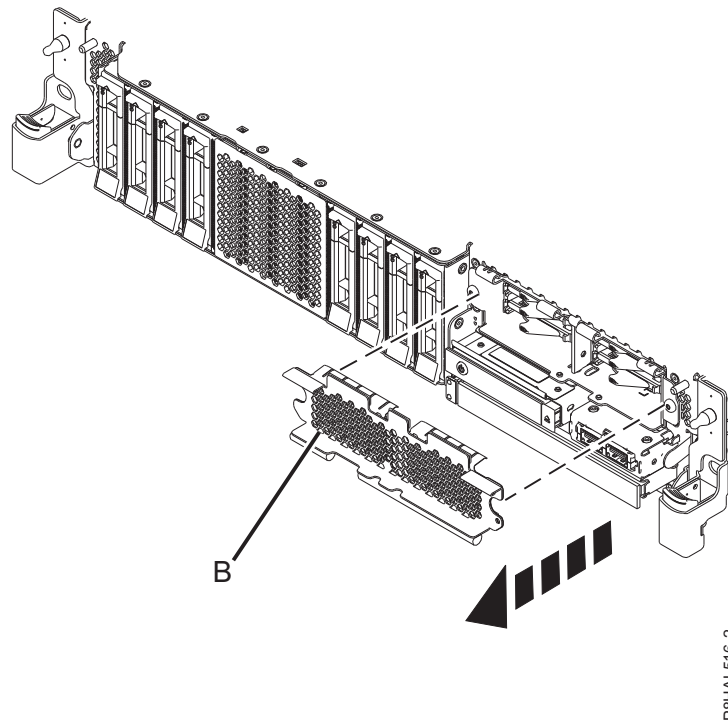

Figure 25. Removing the SSD cage cover to access the SSD slots in an expanded function system
15. To access the SSD slots, remove the perforated plate (B) covering the SSD cage as shown in Figure 25.